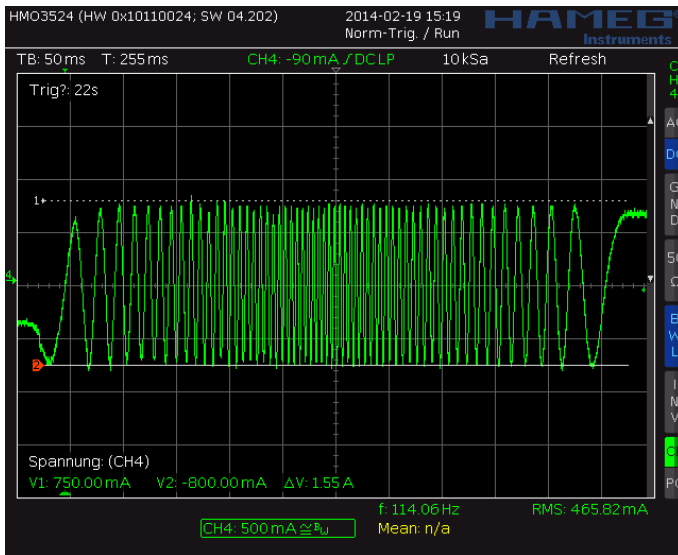
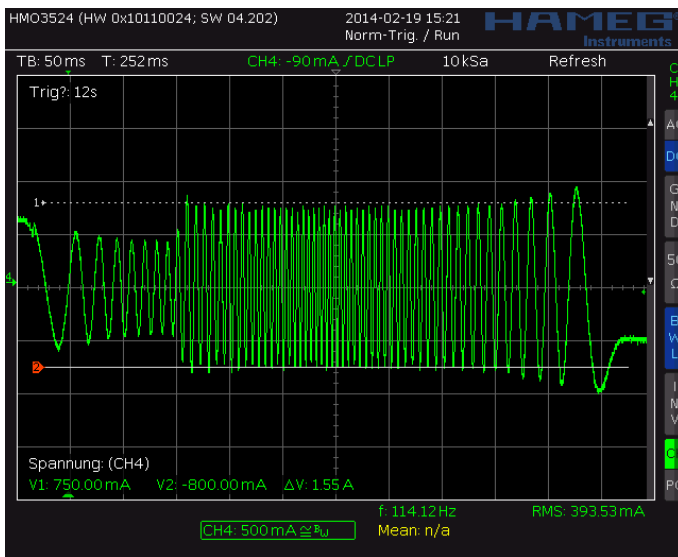
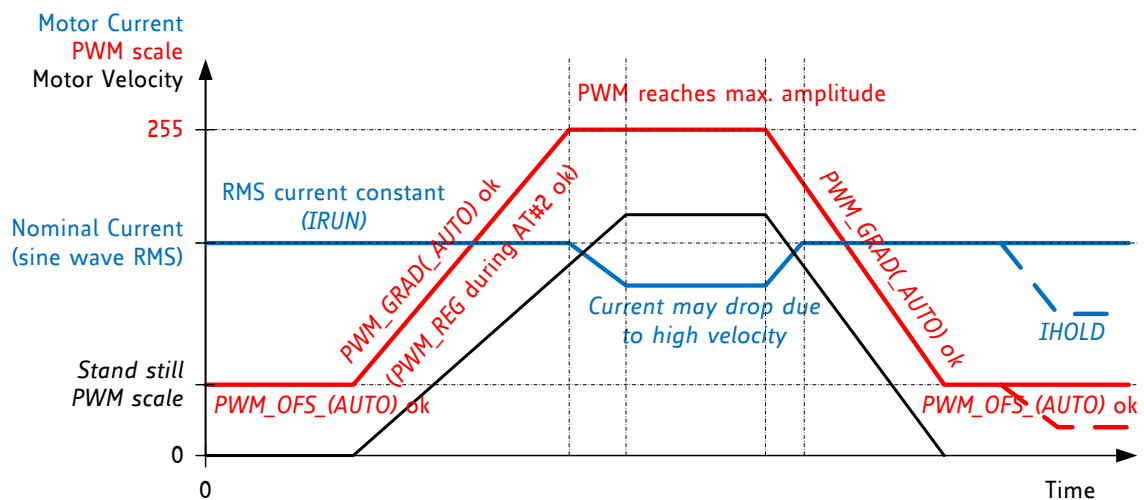

Figure 6.3 Scope shot: good setting for PWM\_REG
Figure 6.4 Scope shot: too small setting for PWM\_REG during AT#2
Figure 6.5 Successfully determined PWM\_GRAD(AUTO) and PWM\_OF(S)\_AUTO
In StealthChop voltage PWM mode, the autoscaling function ( $pwm\_autoscale = 1$ ,  $pwm\_auto\_grad = 1$ ) regulates the motor current to the desired current setting. Automatic scaling is used as part of the automatic tuning process (AT), and for subsequent tracking of changes within the motor parameters. The driver measures the motor current during the chopper on time and uses a proportional regulator to regulate  $PWM\_SCALE\_AUTO$  in order match the motor current to the target current.  $PWM\_REG$  is the proportionality coefficient for this regulator. Basically, the proportionality coefficient should be as small as possible in order to get a stable and soft regulation behavior, but it must be large enough to allow the driver to quickly react to changes caused by variation of the motor target current (e.g. change of VREF). During initial tuning step AT#2,  $PWM\_REG$  also compensates for the change of motor velocity. Therefore, a high acceleration during AT#2 will require a higher setting of  $PWM\_REG$ . With careful selection of homing velocity and acceleration, a minimum setting of the regulation gradient often is sufficient ( $PWM\_REG=1$ ).  $PWM\_REG$  setting should be optimized for the fastest required acceleration and deceleration ramp (compare Figure 6.3 and Figure 6.4). The quality of the setting  $PWM\_REG$  in phase AT#2 and the finished automatic tuning procedure (or non-automatic settings for  $PWM\_OFS$  and  $PWM\_GRAD$ ) can be examined when monitoring motor current during an acceleration phase Figure 6.5.